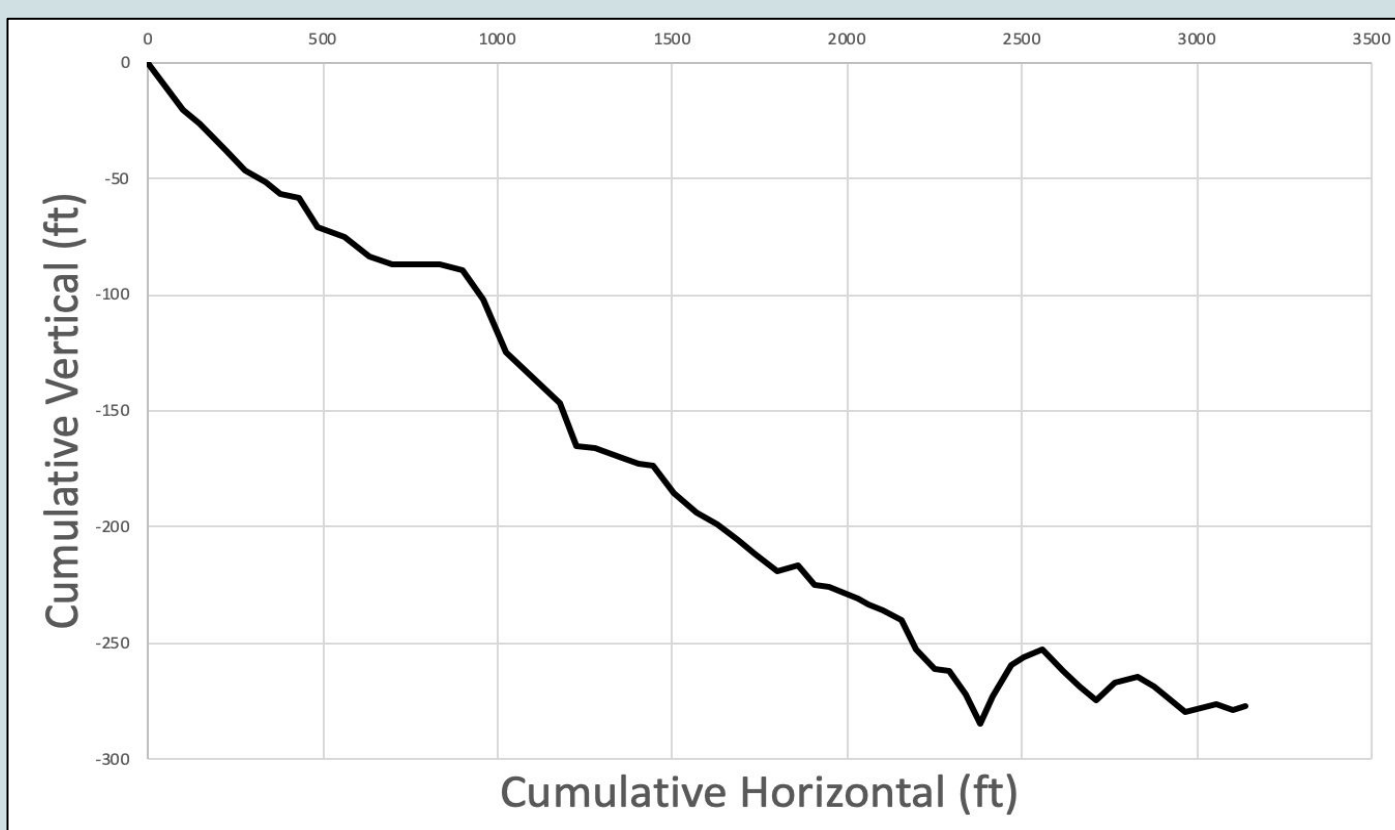

Figure 4: Elevation Profile from Sources to Proposed Tank
- Current water distribution pipeline was surveyed (Fig. 4)